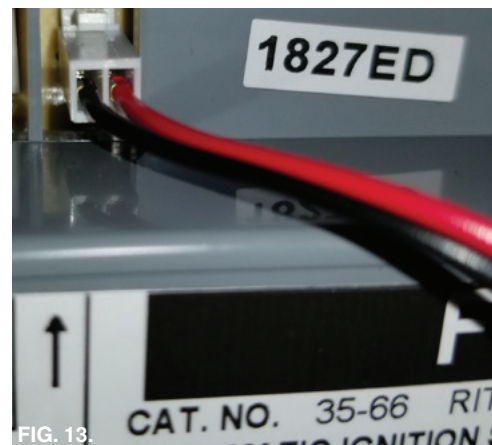

FIG. 13.
12. Connect the Red and Black cable from the PCBA to the ICM if you have the Flame sense cable. Otherwise, connect the wire adapter 476213 with Red and Black cable and LED to the ICM as shown in Fig 13.